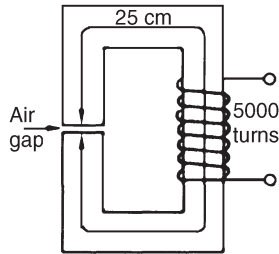

Figure 7.5
**Problem 14.** A section through a magnetic circuit of uniform cross-sectional area  $2 \text{ cm}^2$  is shown in Figure 7.5. The cast steel core has a mean length of  $25 \text{ cm}$ . The air gap is  $1 \text{ mm}$  wide and the coil has  $5000$  turns. The  $B$ – $H$  curve for cast steel is shown on page 78. Determine the current in the coil to produce a flux density of  $0.80 \text{ T}$  in the air gap, assuming that all the flux passes through both parts of the magnetic circuit.